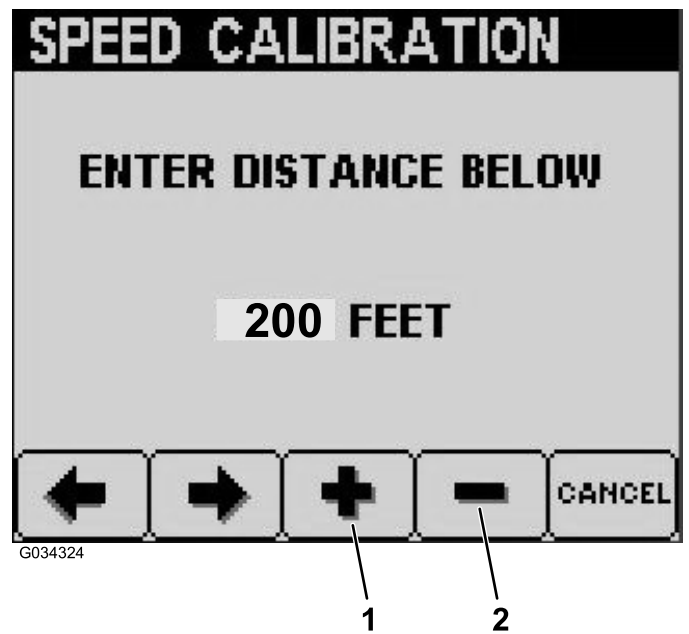

Figure 38
7. Press button 3 to increase the desired distance or press button 4 to decrease the desired distance (Figure 38).